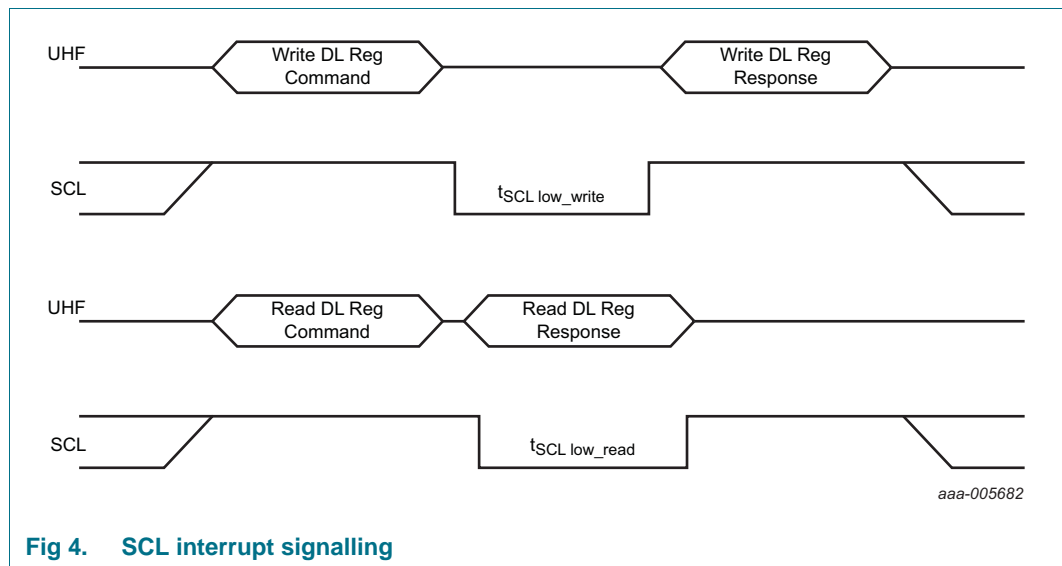

Fig 4. SCL interrupt signalling
- If the SCL INT enabler of the ConfigWord is set (20Bh) the SCL line will be pulled low for at least 210 μs in case new data was written by the reader or at least 85 μs in case new data has been read by the reader (see Figure 4 "SCL interrupt signalling" and Table 8 "Interrupt signaling via the I²C-SCL line timing").